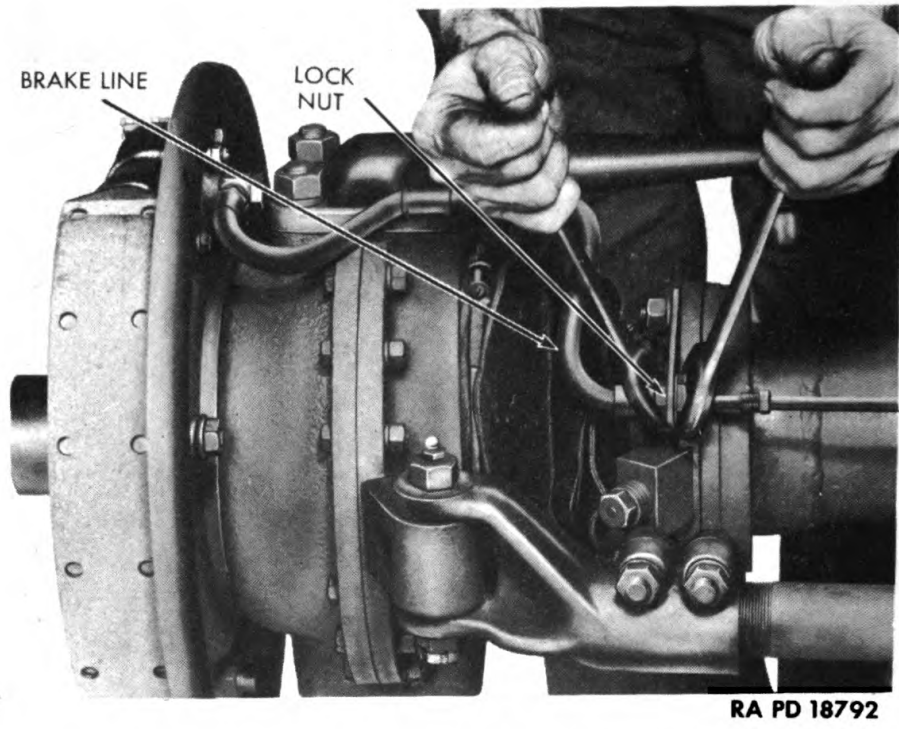

Figure 26 — Disconnecting Brake Line
d. Disconnect Brake Tube. Disconnect brake tube from bracket connection at axle housing. Remove lock nut from tubing connection, and remove connection from bracket (fig. 26). Remove nut and lock washer holding brake flexible tube clip to steering arm, and lift clip from stud.